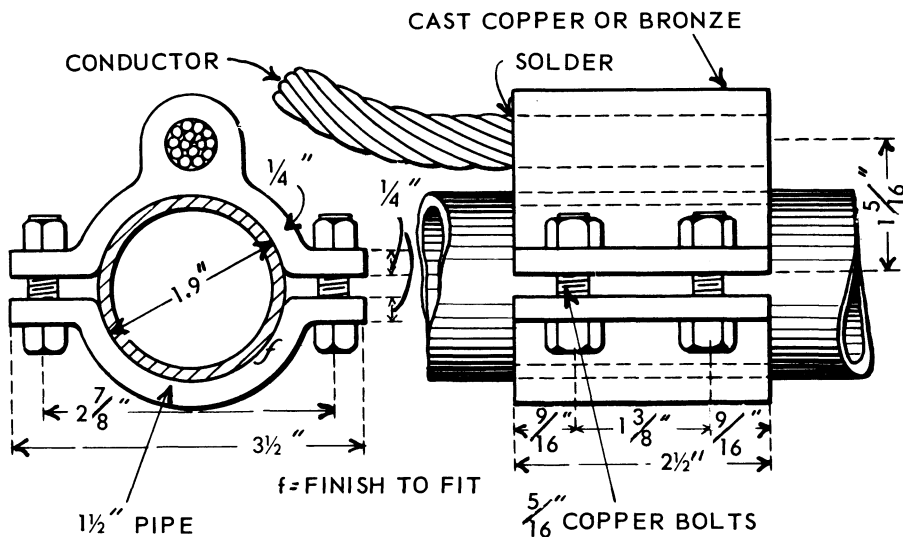

Figure 13.—Ground to a metal water pipe.
- By clamping the conductor cable to a metal water pipe (fig. 13).
Connections to metal water piping where it enters a building generally make the best ground. The connections should be made with a clamp designed for this purpose (fig. 13). Individual metal casings of the deep-well type, make excellent ground connections.